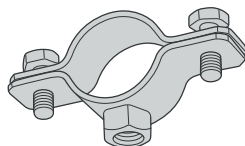

Fig. 6.e
- in order to stabilise the distribution system during operation, the manufacturer suggests fixing it to the finned coil using collars, such as those shown in Fig. 6.e. The collars are not supplied by the manufacturer.